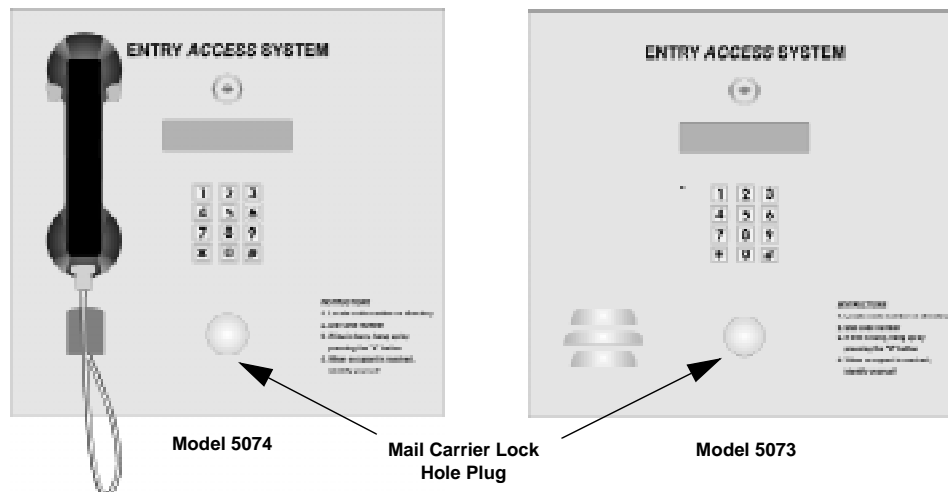

Figure 3-15: Mail Carrier Lock Hole Plug Location
1. Remove the Mail Carrier Lock hole plug. (See Figure 3-15.)